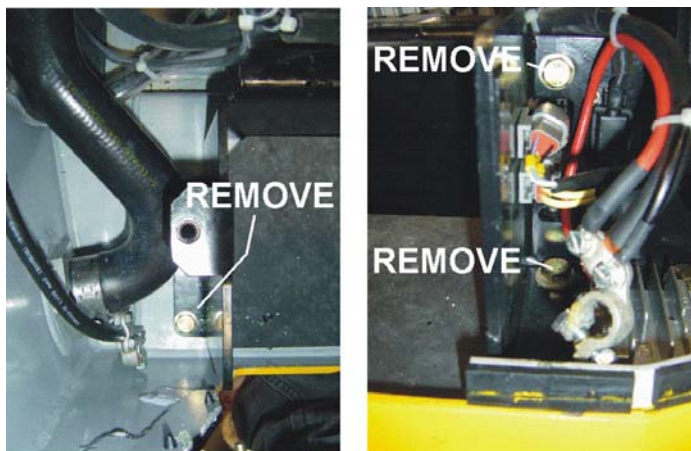

Figure 8. Battery Box Removal
9. Using a ratchet with a 17 mm socket and extension, remove the battery box (Figure 8).